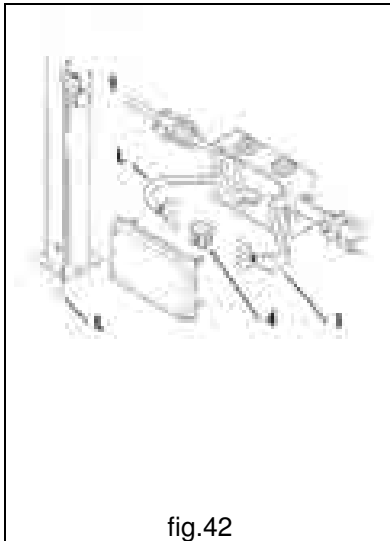

fig.42
4. Connect to the terminals **4** contained in the connector block the electric cable **1** and the cable of line **L** (inserted previously in the column- see 4.3.3 – Assembly column) - (fig.42).